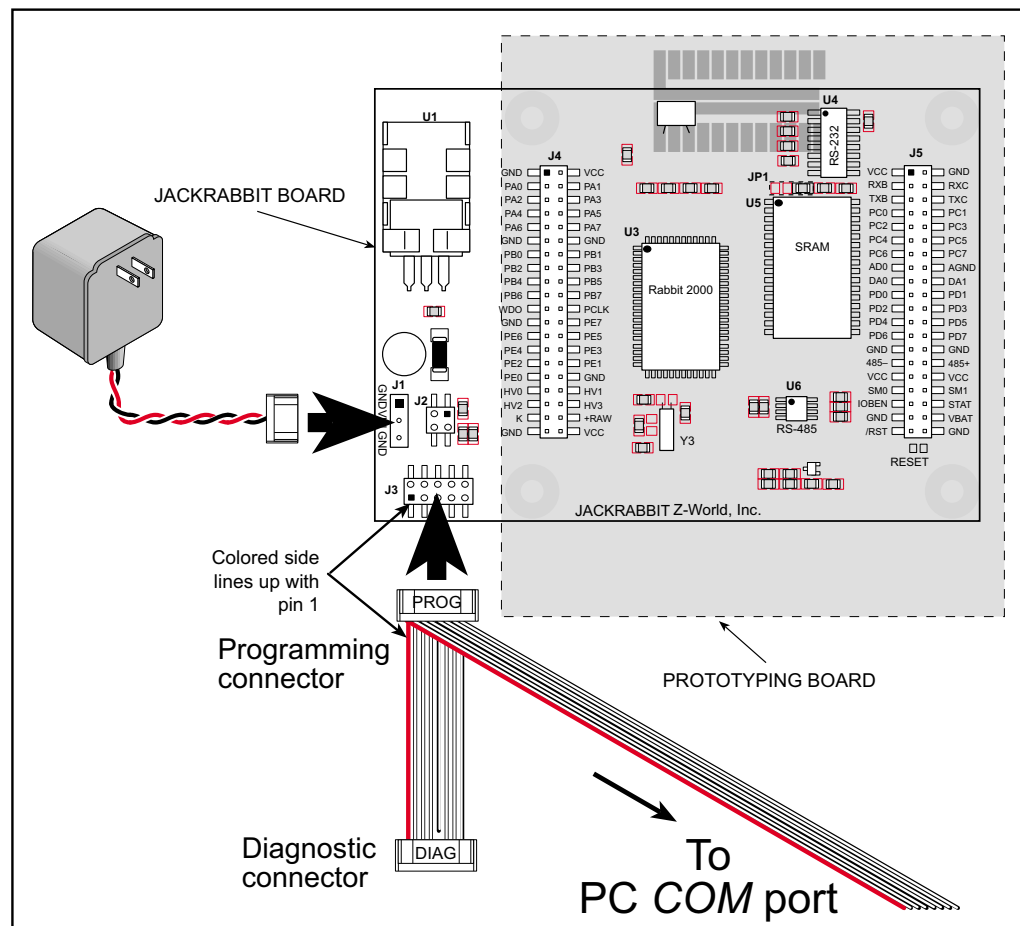

Figure 3. Power and Programming Cable Connections to Jackrabbit Board
1. Connect the 10-pin **PROG** connector of the programming cable to header J3 on the Jackrabbit board as shown in Figure 3. (If your programming cable has only one unlabeled 10-pin connector, attach that connector to header J3 on the Jackrabbit board.) Connect the other end of the programming cable to a COM port on your PC. Note that COM1 is the default COM port used by Dynamic C.
2. Hook up the connector from the wall transformer to header J1 on the Jackrabbit board as shown in Figure 3. The orientation of this connector is not important since the VIN (positive) voltage is the middle pin, and GND is available on both ends of the three-pin header J1.
- The programming cable must be connected to the Jackrabbit board. (The colored wire on the programming cable is closest to pin 1 on header J3 on the Jackrabbit board, as shown in Figure 3 on page 7.) The other end of the programming cable must be connected to the PC serial port. The COM port specified in the Dynamic C **Options** menu must be the same as the one the programming cable is connected to.